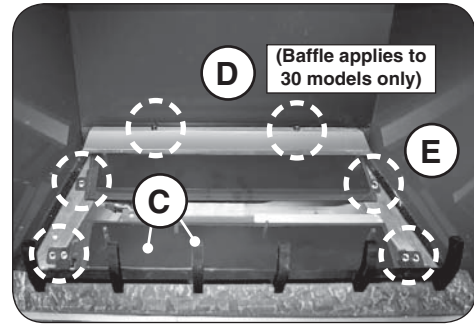

Fig. 52-1 Remove grate, baffle hex screws, & burner(s)
4. Remove the grate and front burner. Use a $\frac{5}{16}$ " nut driver to remove the two hex screws found on each side of the grate and front burner. See Fig. 52-1, "C".
5. Remove the 2 hex screws found on the rear baffle (30 models only) and the 2 hex screws found on the ends of the rear burner using a $\frac{5}{16}$ " nut driver. Remove the baffle and rear burner (as applicable). See Fig. 52-1, "D" and "E".